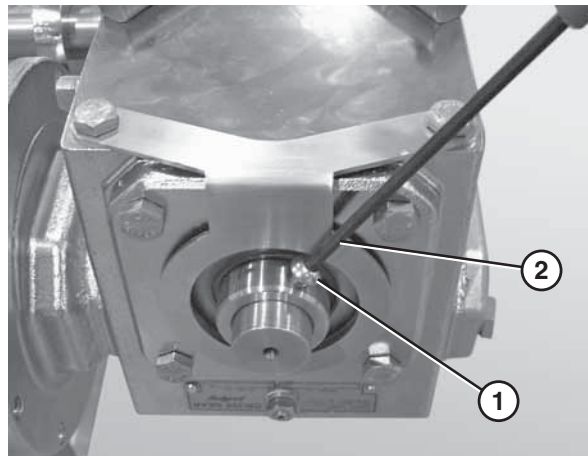

Figure 15
5. Tighten the drive spindle fasteners (**Figure 15, item 1**) located on the inside and outside of the gearmotor using a hex wrench (**Figure 15, item 2**).